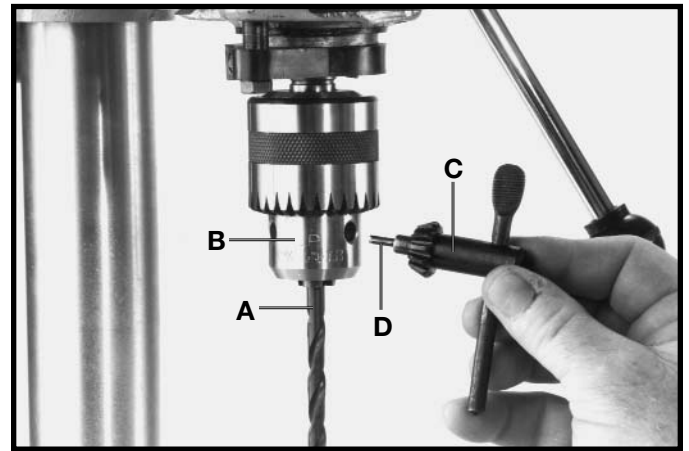

Fig. 26
2. Insert smooth end of drill bit (A) Fig. 26, into chuck (B), as far as it will go, and then back the bit out 1/16", or up to the flutes for small bits.
3. Make certain that the drill bit (A) Fig. 26, is centered in the chuck (B) before tightening the chuck with the key (C).
4. Turn the chuck key (C) Fig. 26, clockwise to tighten and counterclockwise to loosen the chuck jaws.
6. **MAKE SURE** chuck key (C) Fig. 26, is removed from chuck before starting drill press. Your chuck key (C) is equipped with a self-ejecting pin (D) which helps minimize the hazard of the key being left in the chuck.